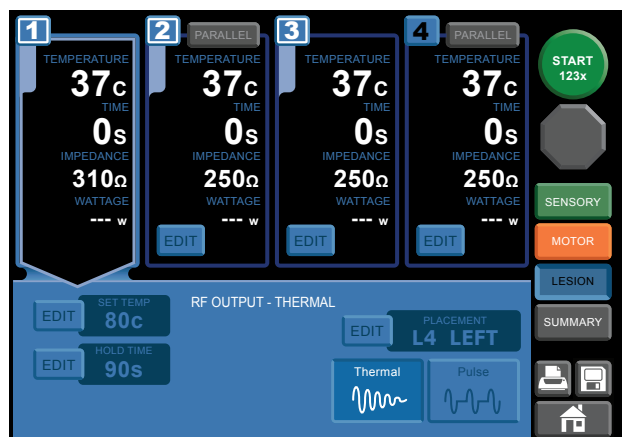

Figure 25 RF Output Screen THERMAL mode - INACTIVE - SELECTED AND LOCKED ELECTRODES 1, 2, and 3
- Touch the electrode identifier number(s) to select and lock the desired electrode(s) before use. The number(s) will remain depressed to indicate they are selected, locked and ready to apply RF energy output (see figure 25).